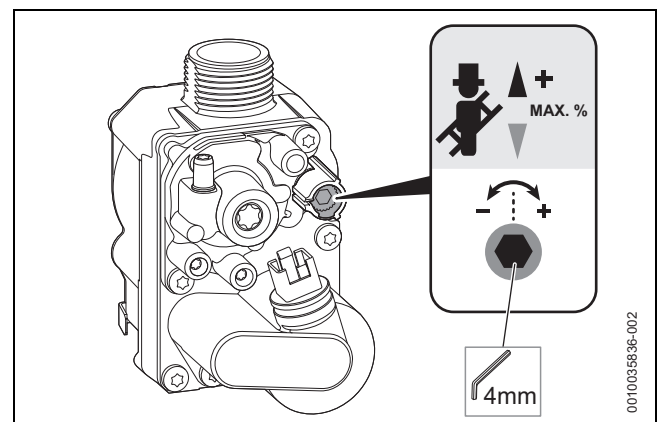

Fig. 83 Setting the CO₂ content
- ▶ Insert the hex tool into the adjusting screw of the gas valve (as shown in the below Figure 83) and set the CO₂ content for maximum rated output.